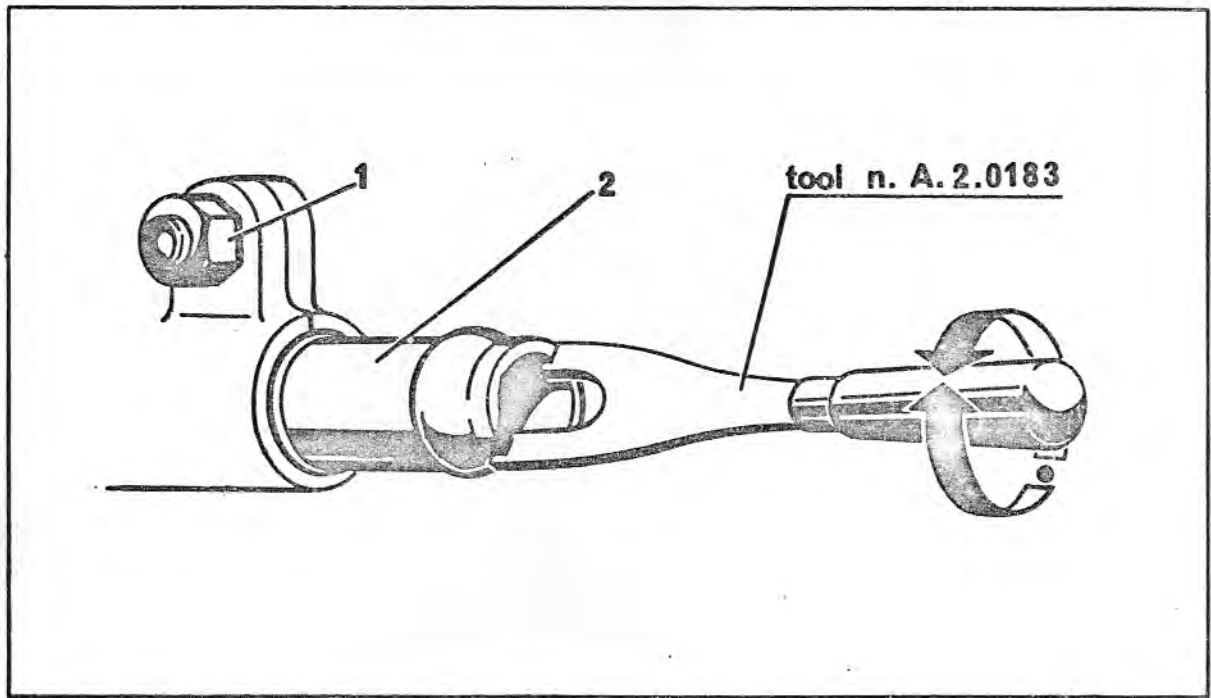

Fig. 13 - IDLE AIR ADJUSTMENT
FIRST STEP (see fig. 13)
If adjustments are necessary remove the air cleaner-to-equalizer block hose, loosen the adjuster lock screw (1) (see fig. 13) and adjust the equalizer adjuster accordingly: